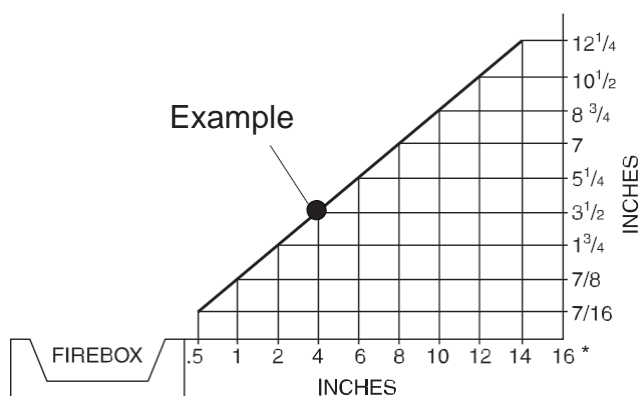

Figure 5 - Minimum Clearance for Combustible to Wall
- where curtains, furniture, clothing or other flammable objects are less than 36" from front or 42" from top of firebox. For side clearances see Figure 5
Minimum Wall and Ceiling Clearances (see Figure 5)
- A. Clearances from side of fireplace cabinet to any combustible material and wall should follow diagram in Figure 5.
Example: The face of a mantel, bookshelf, etc. is made of combustible material and protrudes 3 1/2" from wall. This combustible material must be 4" from side of fireplace cabinet (see Figure 5).